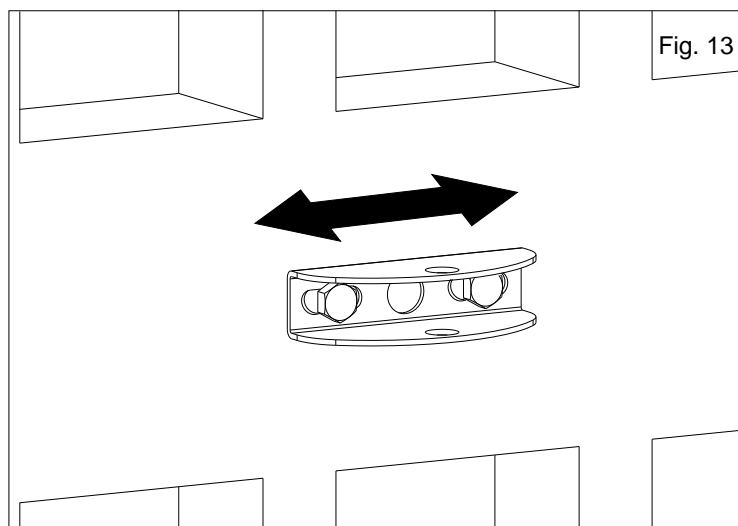

Fig. 13
- Before tightening the screws move the front bracket to the right or to the left for a good positioning of the arm on the gate (Fig. 13)